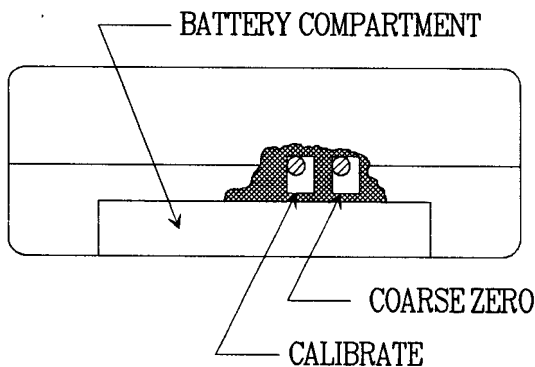

Figure 4
The instrument has two ZERO adjustment controls. A COARSE ZERO multiturn potentiometer is located inside the battery compartment (see Figure 4). Adjustment range is about half that of the entire operating range of the instrument. A vernier ZERO control is provided on the right hand side of the case.
4. Adjust COARSE ZERO (see Figure 4, above) for an indication of 0.00kV/in.
6. Adjust CALIBRATE (see Figure 4, above) for an indicated value of that voltage.